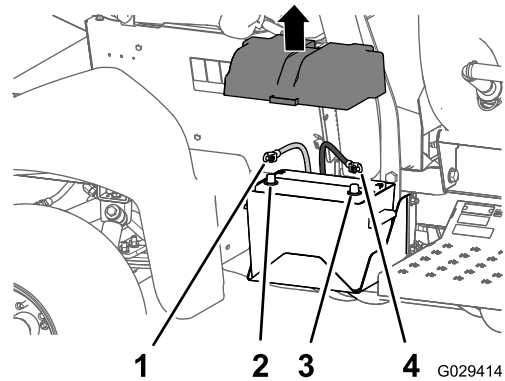

Figure 33
2. Disconnect the negative (black—ground) cable from the battery post (Figure 33).
3. Disconnect the positive (red) cable from the battery post (Figure 33).